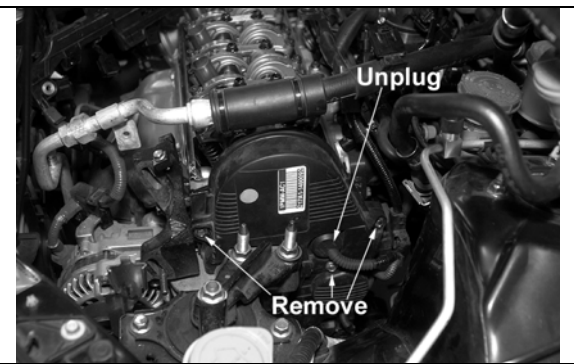

Fig. 9
- o) Remove the three bolts that hold the plastic upper cover to the cylinder head. **(Fig. 9)**